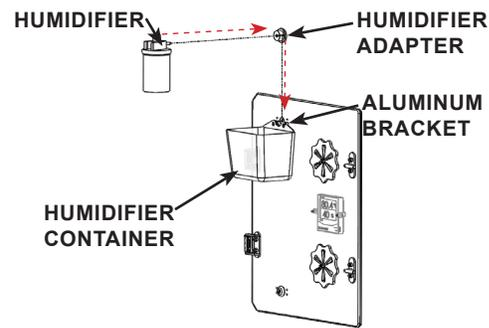

FIGURE 3.3 - Oxygen Analyzer
STEP 2: Insert the humidifier into the humidifier adapter and secure with the retaining screw. Slide the humidifier/adapter into the aluminum bracket. Add ice or water as required to adjust the temperature of the humidifier water. See FIGURE 3.3